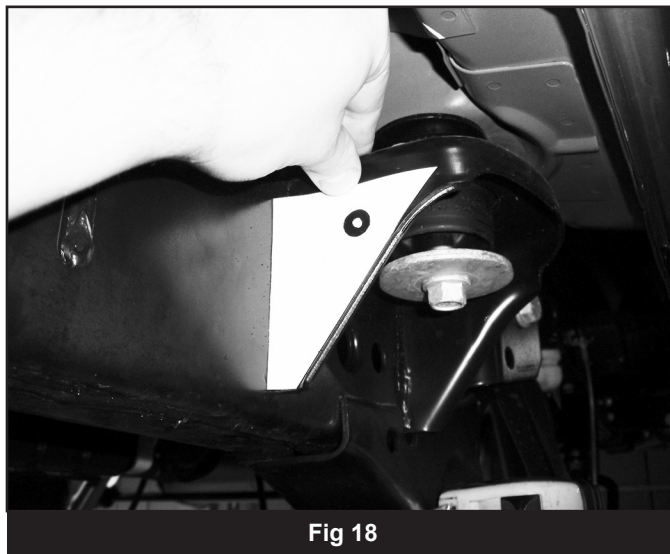

Fig 18
11. Mark holes to drill (Fig 19/20). Use drill template at the end of this instruction sheet to locate the hole to be drilled through the front side of the body mount (Fig 18 – driver's side shown). Set the edge of the template up flush to the frame surface.